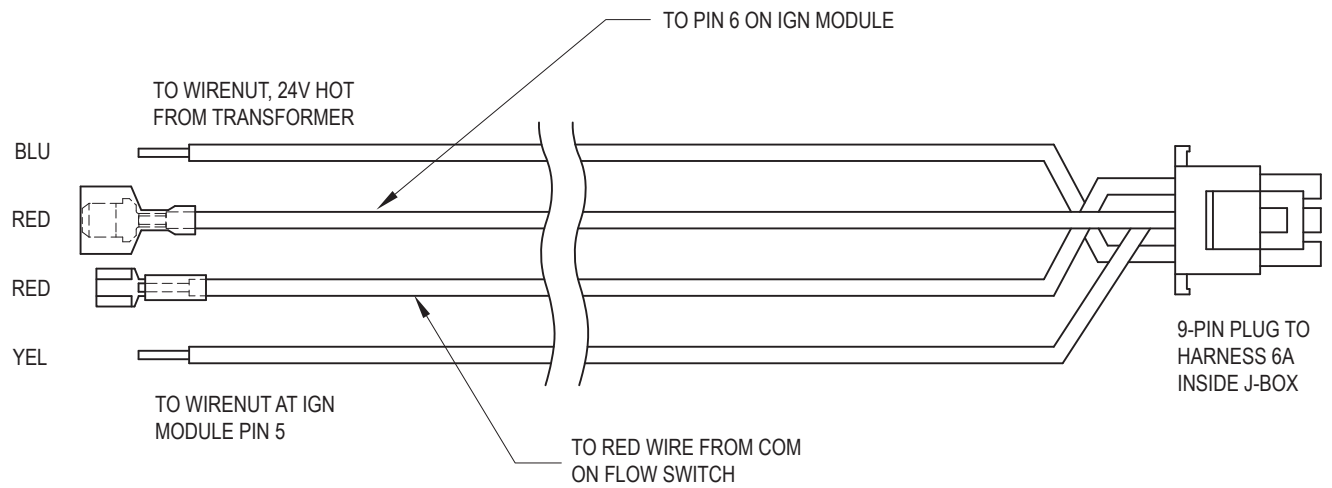
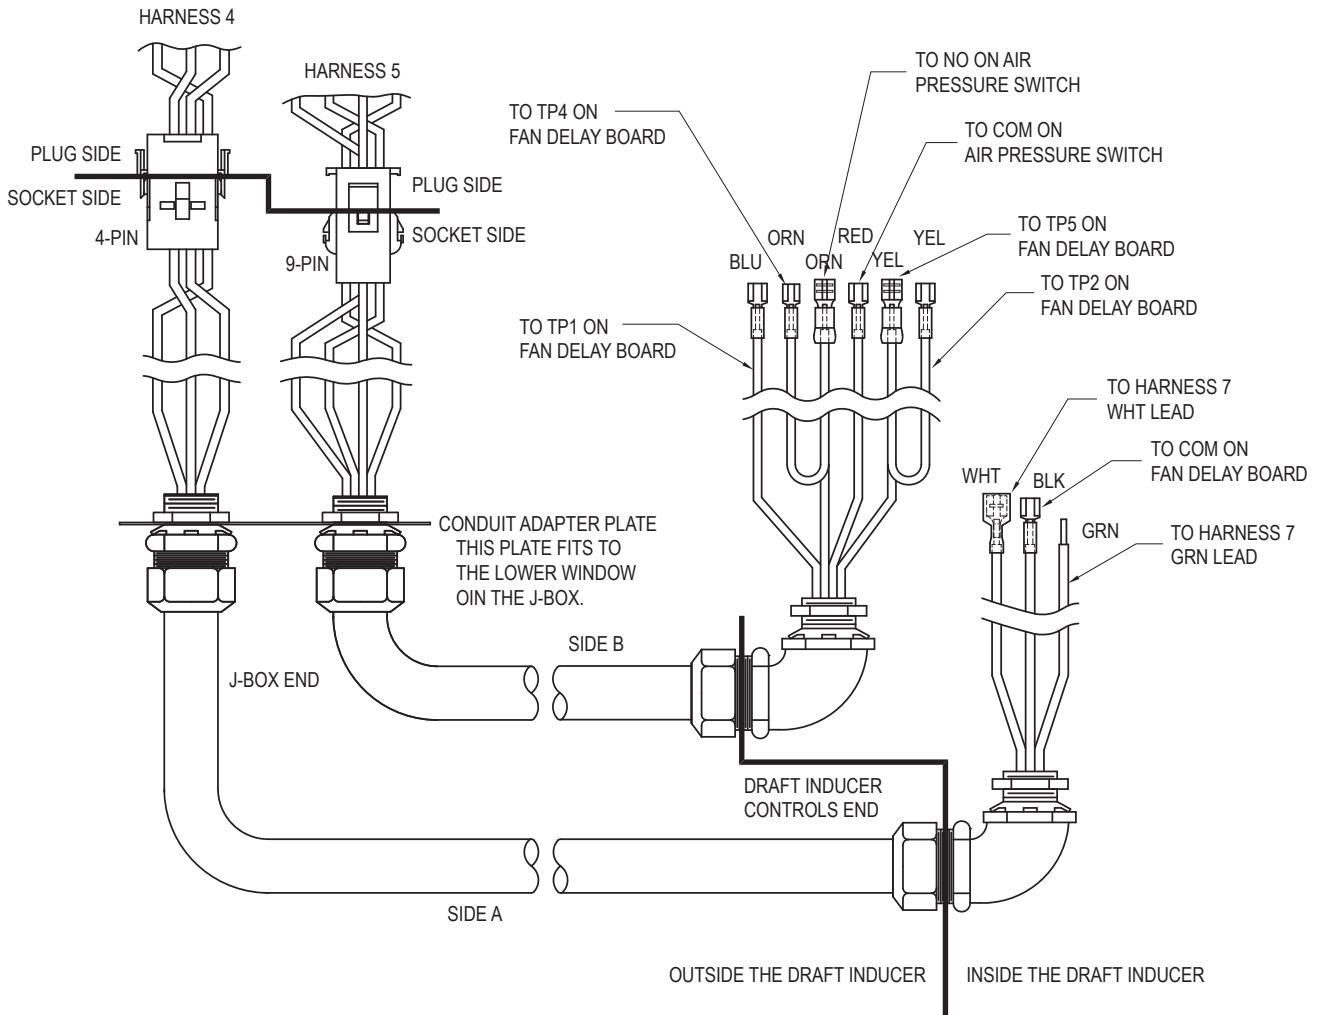

Figure 11. Harness 5, Models 0962-1826
Figure 12. Harness 6, Models 0962-1826
- Connect the loose wires on HARNESS 5 per **Figure 11**. The 9-pin plug remains inside the J-box.
- Connect the loose end of HARNESS 6A (3 wires, 120V) to the power vent (PV) control housing, using the connector provided.
- Connect the wires of HARNESS 6A to the connections indicated on **Figure 12**.
- Connect the wires of HARNESS 6B to the connections indicated on **Figure 12**.
- Connect the wires from HARNESS 7 to the power vent controls as indicated on **Figure 12**.
- Connect the wires from HARNESS 7 to the power connections on the fan motor, per **Figure 12**.